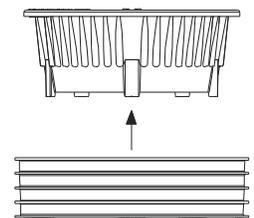

Fig. 9
6. Push gasket back onto the plastic body. See Fig. 9